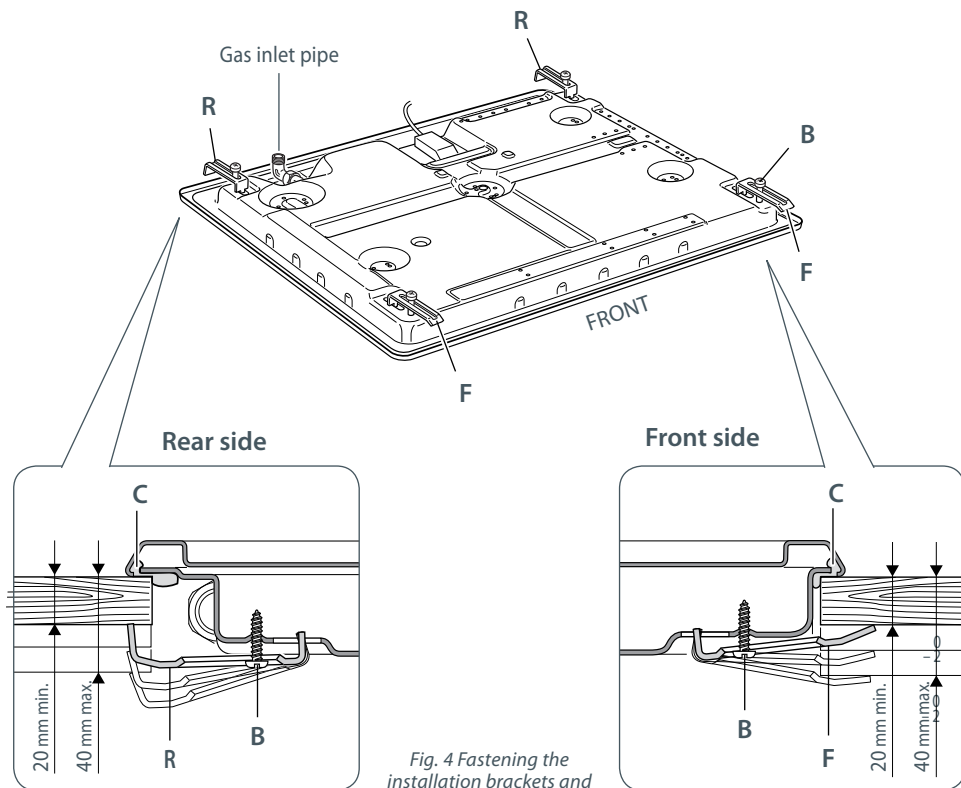

Fig. 4 Fastening the installation brackets and the cooktop
Fastening the installation brackets (Fig. 4)
- Turn the cooktop upside down, place it on a soft surface and fasten the brackets "F" and "R" to the appropriate socket holes, without tightening the screws "B" for the moment (see Fig. 4).
Fastening the cooktop (Fig. 4)